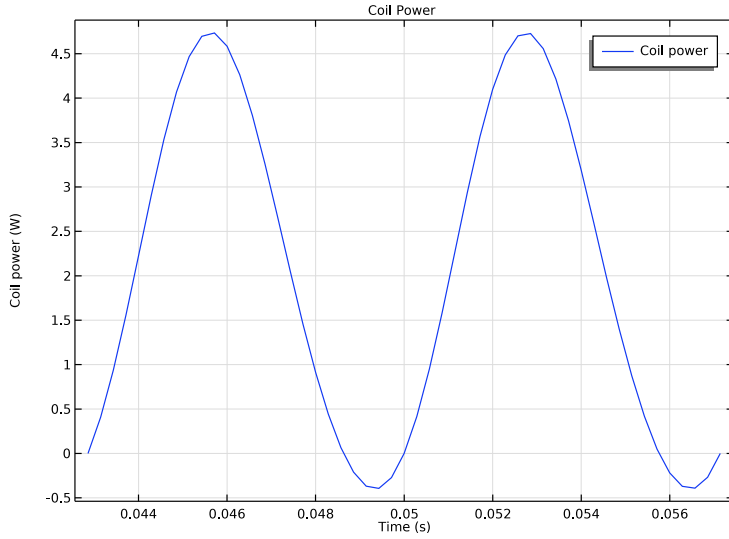
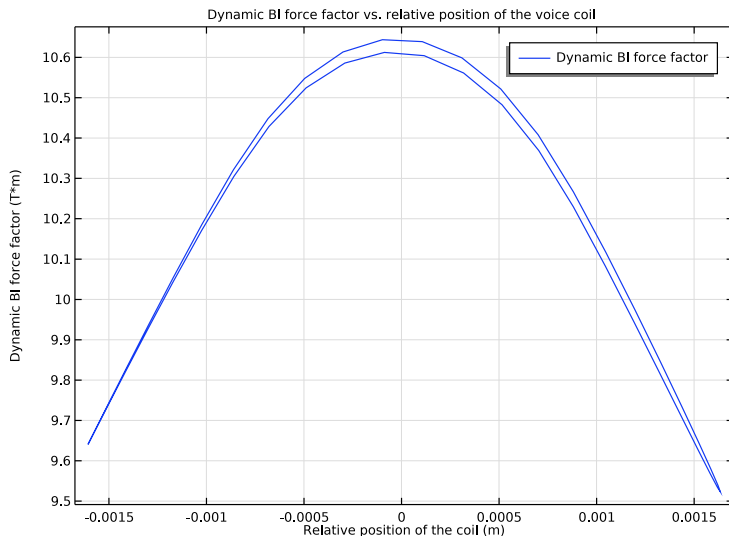

Figure 9: Coil power at the steady state.
Figure 10: Dynamic BI force factor vs. relative position of the voice coil.
The plots of the coil power and the dynamic force factor (BL) are depicted in Figure 9 and Figure 10. You can see that the coil power is negative over certain time intervals. This means that the power flows from the voice coil into the circuit, that is, the voice coil operates in the generator mode. The RMS value of the power is of course positive.